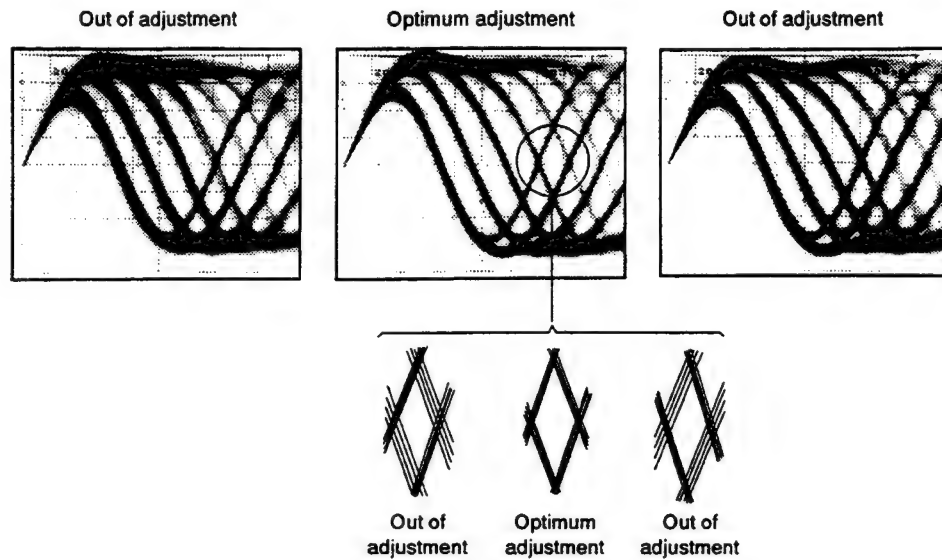

Figure 5 Eye pattern
3. Next, adjust the tangential tilt adjustment screw with an Philips screwdriver wrench so that the eye pattern (the diamond shape at the center of the RF signal) can be seen the most clearly (Figure 5).